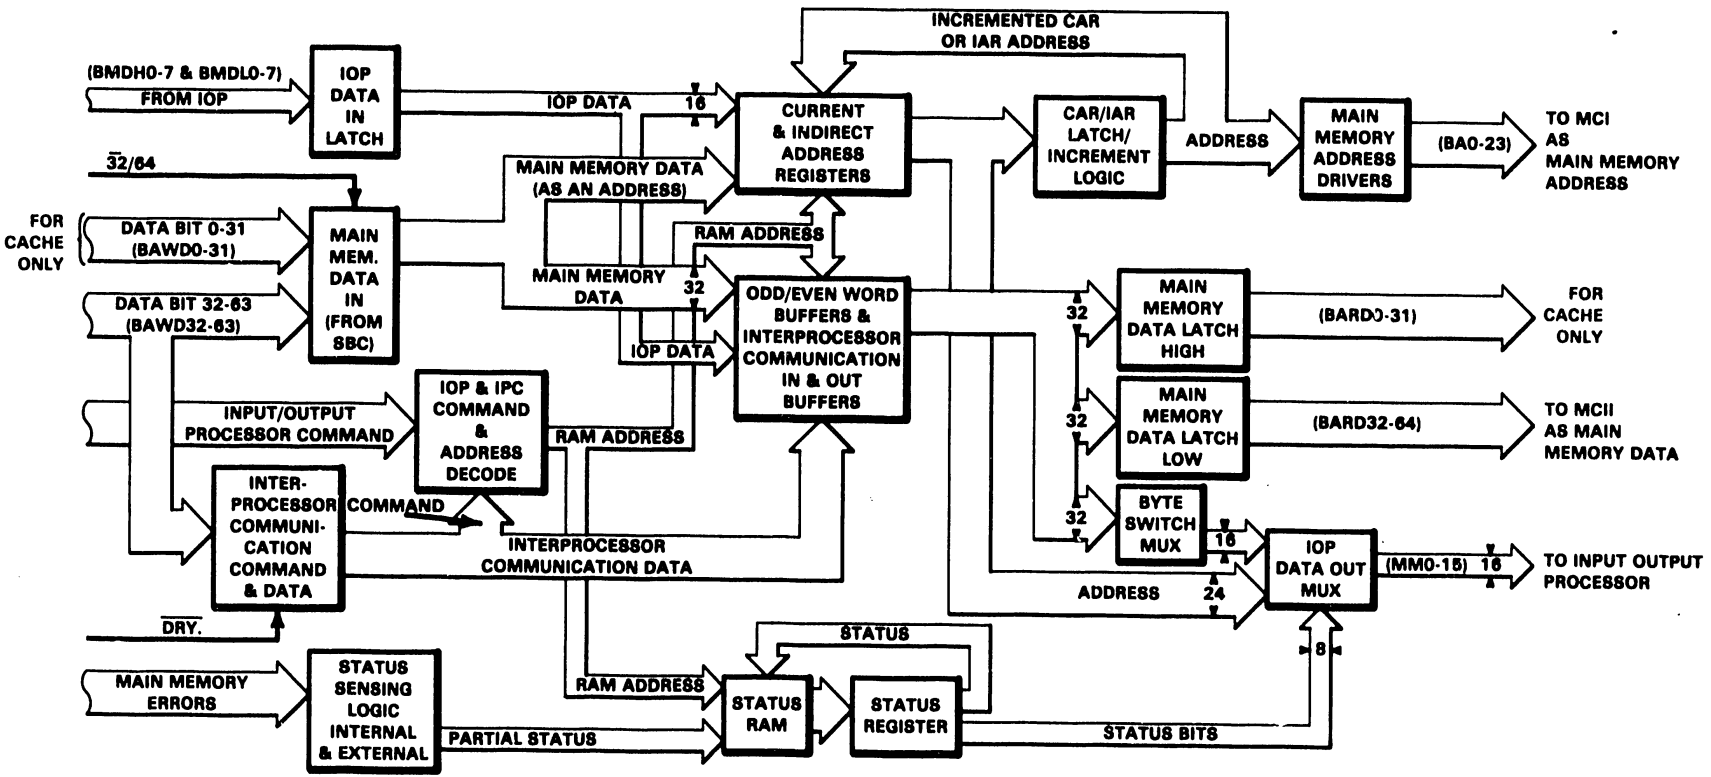

Figure 2-14. VS-85/85-H Bus Adapter
The Bus Adapter (BA) (figure 2-14) is an intermediate processor serving as an interface between the 16-bit IOP and the 32/64-bit VS-85/85-H system bus. The VS-85/85-H can support only one BA. The BA supports up to eight IOPs, however, the VS-85/85-H contains only a maximum of six IOPs. The BA has access to basic VS-85/85-H memory and Interprocessor Communications (IPC) services, and is synchronized with the SBC/MCII. The main service the BA provides is data buffering. The IOPs use 16-bit write and read operations, while data is transmitted to and from memory 32 or 64 bits at a time. The BA blocks data going from the IOP to memory and unblocks data from memory for the IOP, effectively using the 32/64-bit high speed data bus during I/O operations.